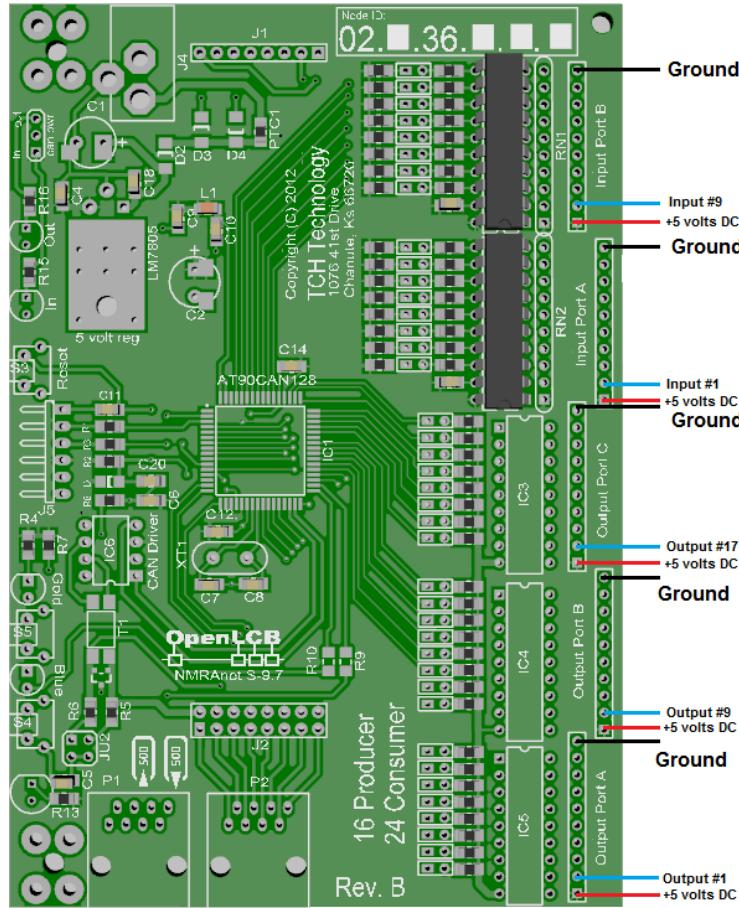

Figure 4.2: Connections to 16 in 24 out Producer/Consumer Node.
Each input and output port has a 10 pin header. These headers include +5 volts dc and a ground connection. Each port has eight(8) input and output pins. See Figure 4.2